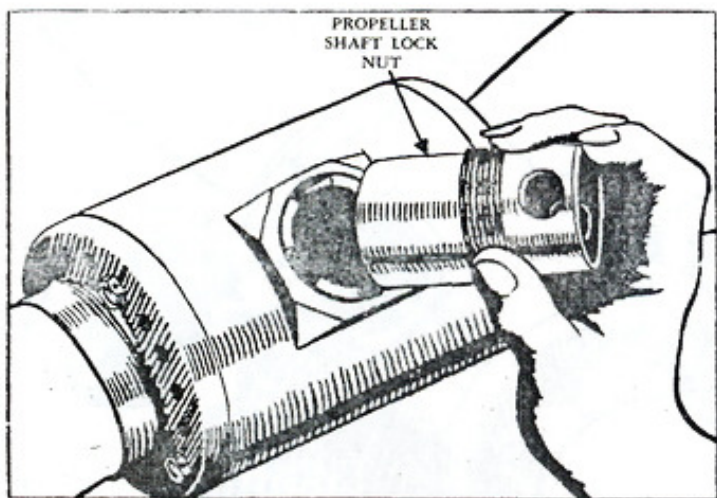

Figure 6D—Inserting Propeller Shaft Lock Nut
5. Install propeller shaft lock nut and tighten with a bar. Align one of the locking pin holes in this lock nut, with the hole in the hub. Install AN392-13 lock pin, AN960-4 washer, and safety with AN380-2-1 cotter pin. (See figures 6D and 6E.)